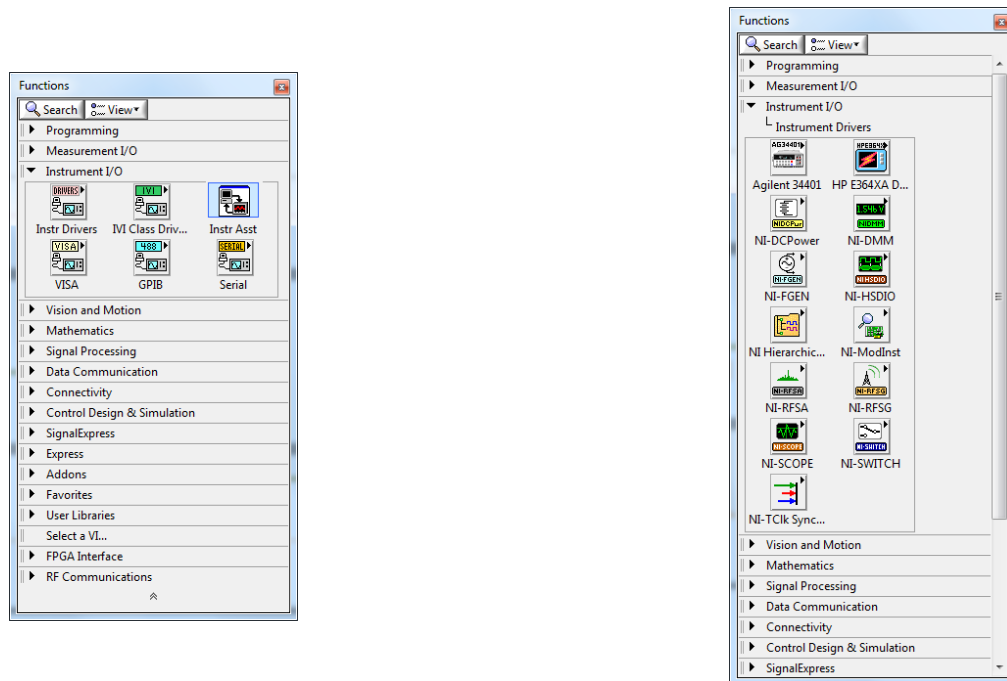

Figure 5. GPIB VI's
4. The sub VI's we will be using are found in the **Instrument IO** section of the **Functions** pallet. Using Figure 5 as a guide, locate the following VI's and place them on the diagram pallet.